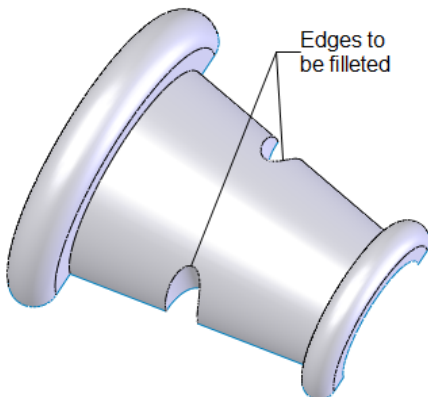

Figure 1-125 Edges to be filleted
2. Select the edges to fillet, as shown in Figure 1-125.